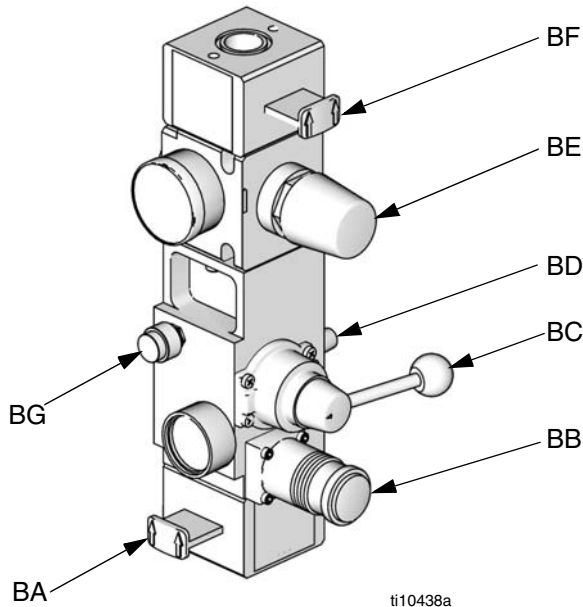

FIG. 3. Integrated Air Controls
| G | Integrated Air Controls (see FIG. 3)                                    | U | Air Line Drain Valve (not supplied)         |
- G Integrated Air Controls (see FIG. 3)